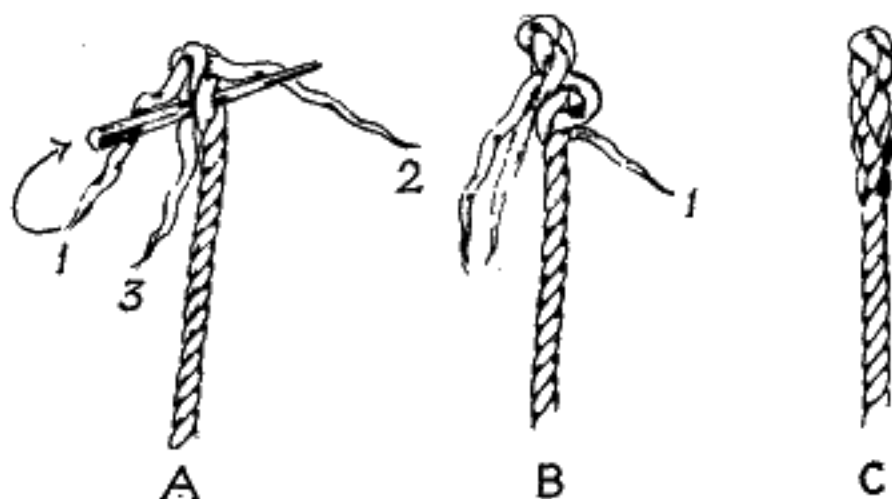

FIG. 320.—The crown splice.
1. Place strand 1 over the first adjacent strand in the main part of the rope, and under the next strand (see Fig. 320).